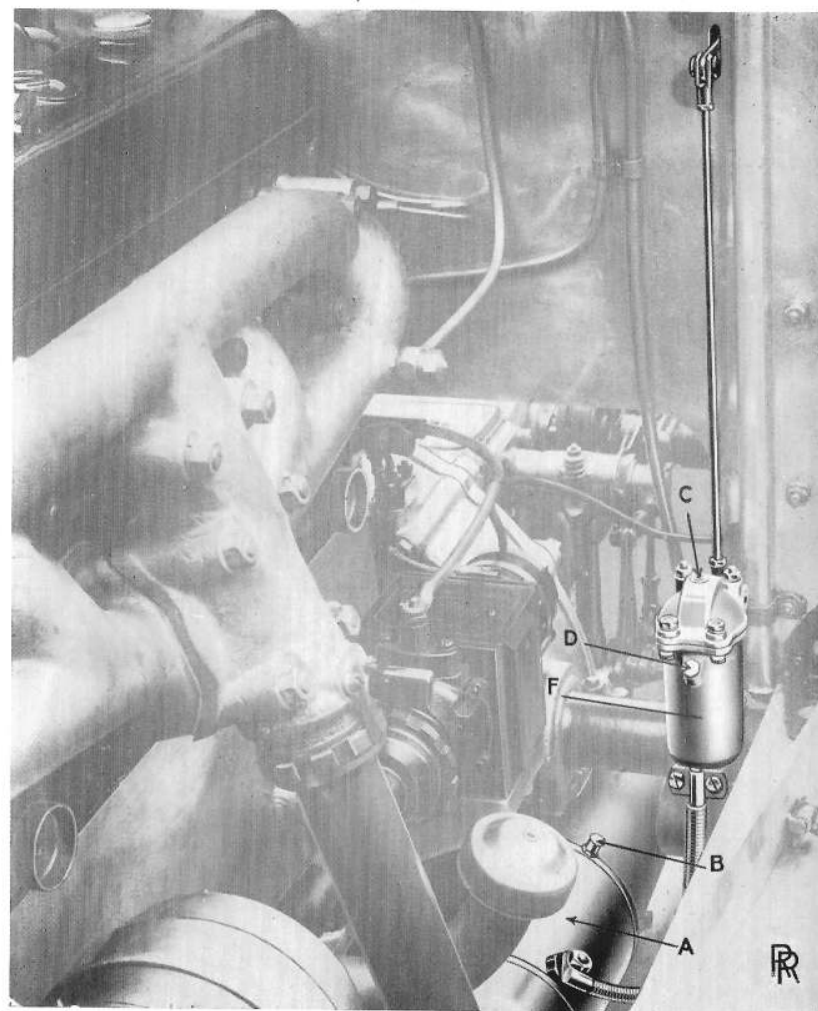

FIG. 9. STARTER MOTOR AND SWITCH.
**Starter Motor.** The starter motor is shown at **A** in Fig. 9. The Bijur pinion engages with teeth on the engine flywheel in the usual manner, the gearing being totally enclosed, and giving a reduction ratio between motor armature and engine crankshaft of 8·4:1.
There is provision for additional lubrication at the driving end, in the form of a small oil cup (**B**, Fig. 9). Oil every 2,000 miles, as directed on page 36.
**Starter** This switch is shown at **F** (Fig. 9). It is situated on the left rear engine foot. Its working contacts are oil-immersed, and it is foot-operated. The switch should be kept full of ordinary engine oil, a plug, **D**, being provided for filling purposes. A spring-loaded ball, **C**, on the top of the switch permits lubrication of the control lever. Oil every 2,000 miles, when lubricating the control mechanism as directed on page 36.